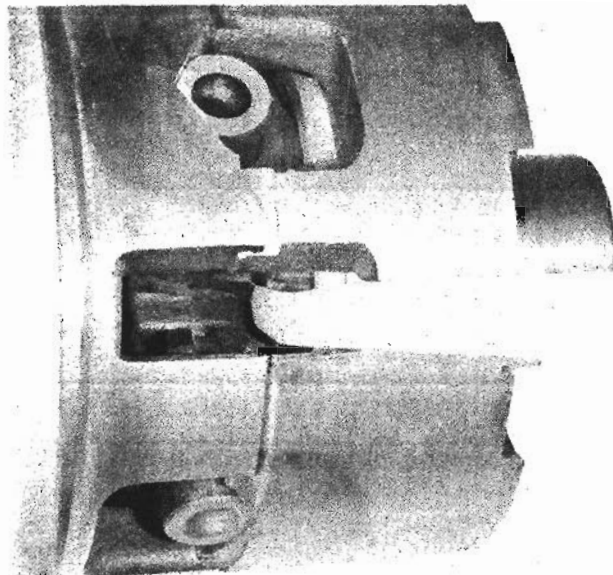

Fig. 1
3. Using a modified hacksaw blade as shown in Figs. 1, 2 and 3, insert the hacksaw blade between the pinion mate shaft and the differential side gear. The hacksaw blade should be